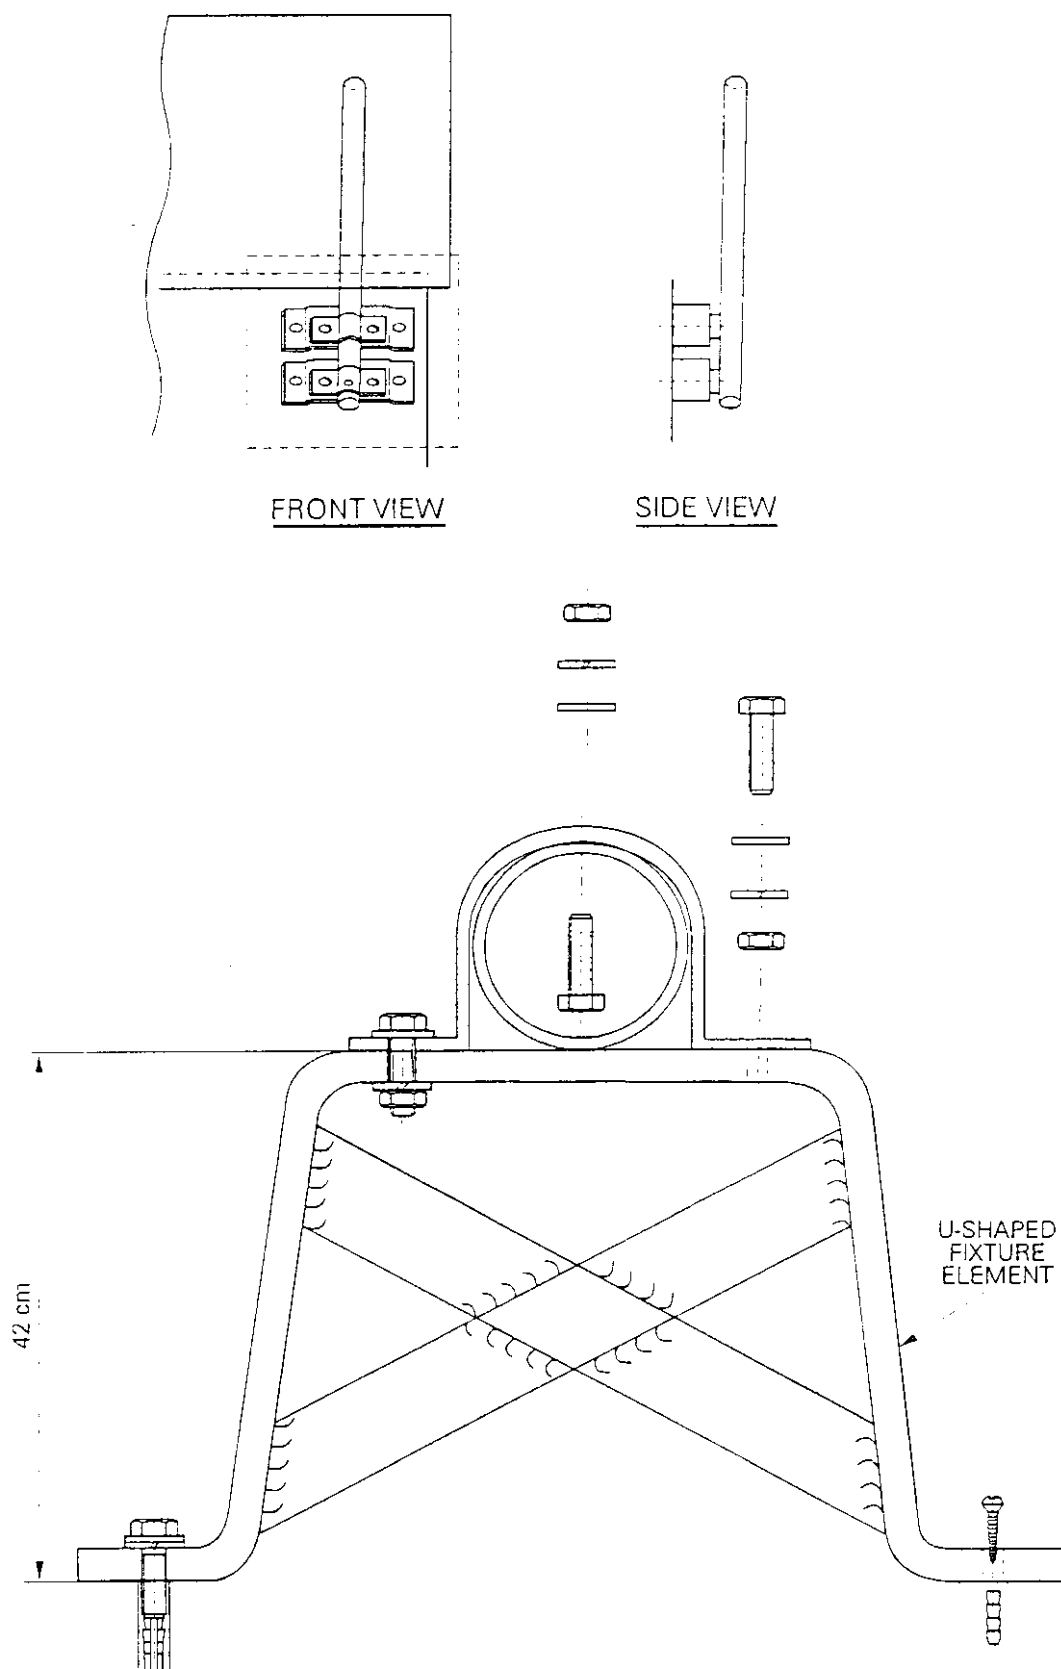

Figure 5-9. Slanting Roof Pole Mounting
5.9.1.2 Slanted Roof Pole Mounting (refer to Figure 5-9)